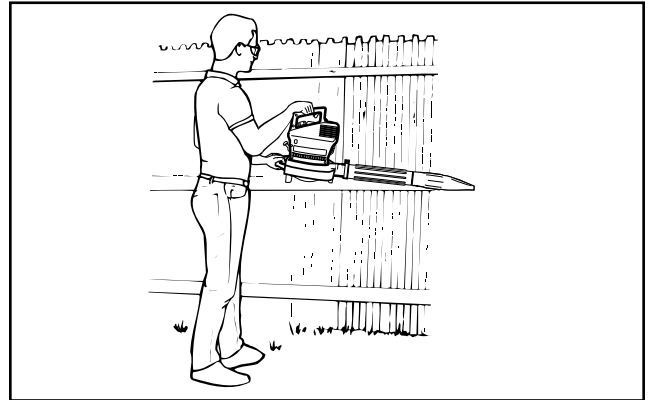

Fig. 21
3. Use the blower for walls, overhangs and screens (Fig. 21).